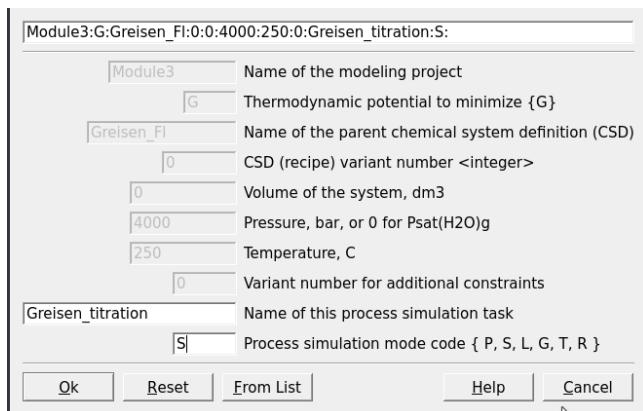

Figure 3.15: Name the ‘Process’ simulator and indicate the model type.
- Create a titration model similar to Module 2 for the feldspar reaction path, except this time we will choose “R_leucogranite” as the titrant. The simulation conditions will be 250 °C and 4000 bar, and we will add 0.1 g to 2000 g of R_leucogranite to Fluid_greisen. Figures 3.15, 3.16, and 3.17 show the parameters to be entered in the subsequent **Process** wizard windows. Don’t forget to un-tick the box “Save generated SysEq records” in Step 5 to avoid saving too many SysEq records.